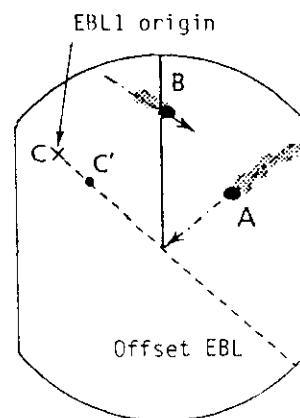

Fig.1-14
4. To predict another ship's course, place EBL1 over the target after passing several minutes. If EBL1 bisects own ship, the possibility of collision exists. Refer to Fig.1-14 on page 1-11.
To ascertain another ship as a hazardous target place the EBL on it. If the extension of its latest tracks is on the EBL, it can be a hazardous one. In Fig.1-14, ship A can be on collision course and ship B will pass clear to starboard.